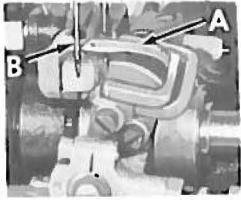

Fig. 6
The looper is set correctly in line-of-feed, if, as it moves to the left, behind the needle, its point (A, Fig. 6) brushes, but does not pick at the rear of the needle (B).